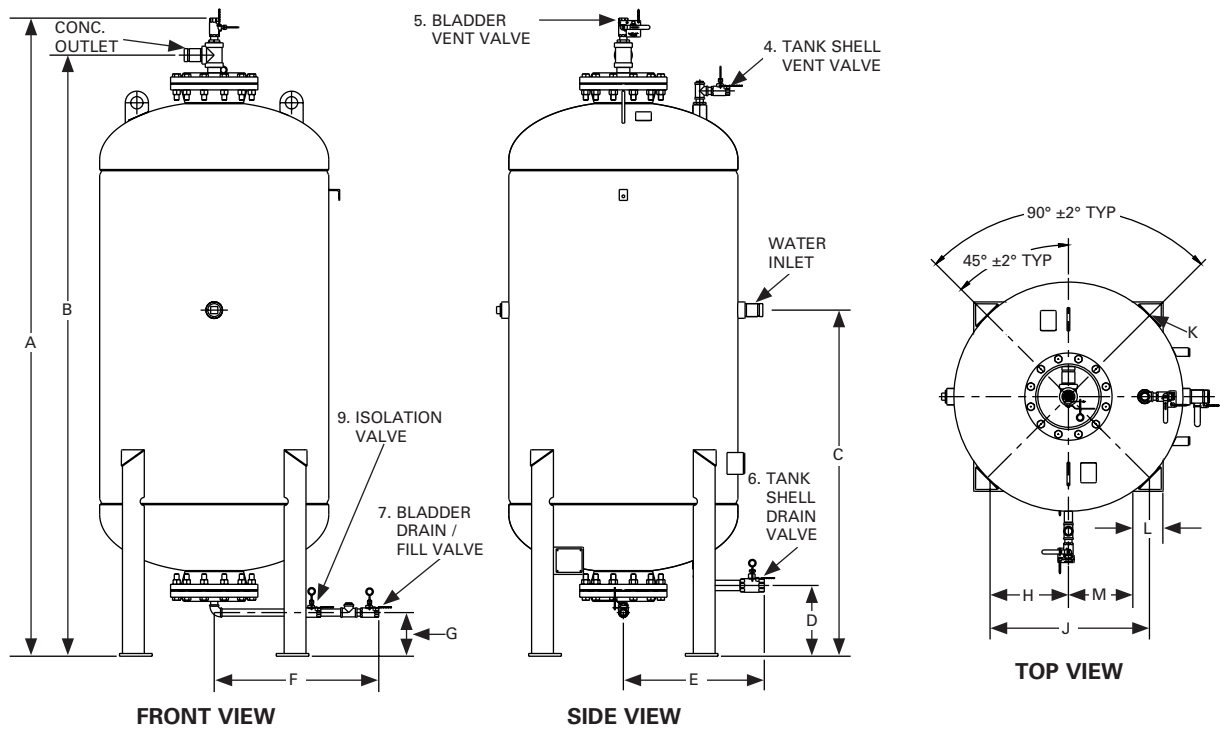

FIGURE 1
* Reference Figure 1 for valve location
Dimensional Information (Reference Figure 1)